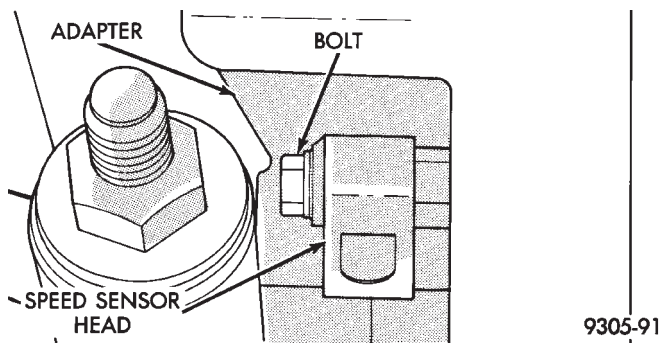

Fig. 19 Speed Sensor Head Installed In Adapter
(7) If vehicle is equipped with Anti-Lock brakes. Install the speed sensor head into the rear disc brake adapter (Fig. 19). Torque speed sensor head to adapter attaching bolt to 7 N•m (60 in. lbs.).